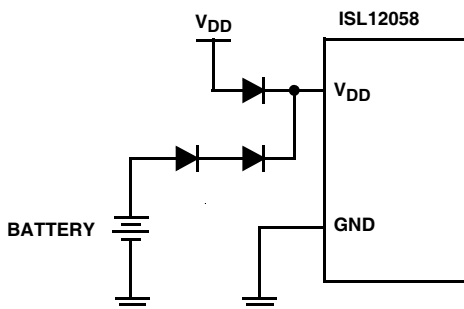

FIGURE 3. PROTECTION CIRCUIT WITH THREE DIODES
For example, the ISL12058 does not offer a battery switchover feature but an application requires it. The battery backup function can be added simply by connecting both main supply and backup battery to the  $V_{\text{DD}}$  pin. To have proper protection, a diode is placed in series with the main supply and two diodes are placed in series with the battery. The diode in series with the main supply is to block current from the battery into the main supply. Two diodes in series with the battery are to prevent reverse charging. The second diode is used to provide protection in the event that one should fail. Figure 3 shows the actual circuit with three diodes protection.
- Intersil devices that require two diode in series (Figure 3) for UL requirements: ISL12057, ISL12058, ISL12059.